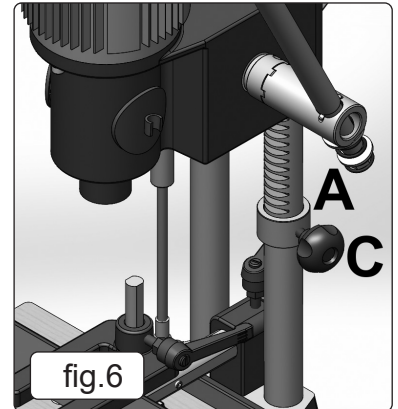

fig.6
A depth stop guide (fig.6.A) is provided to limit the depth of the chisel. To adjust the depth stop guide (fig.6.A), loosen screw knob (fig.6.C) and lower head until the chisel is at the desired depth. Lower depth stop guide (A) until it is at the desired depth, tighten screw knob (fig.6.C).